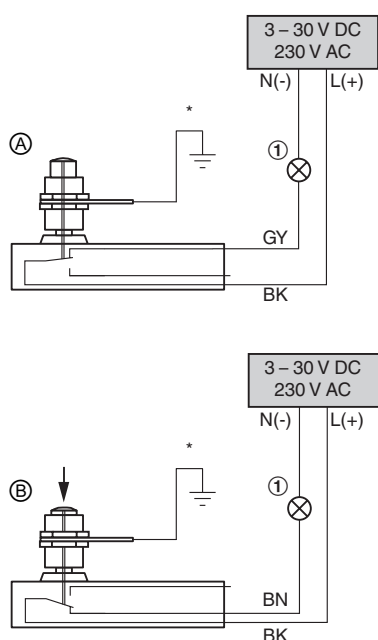

Fig. 12: Wiring example for limit switch
- ① Indicator light or relay, to be provided by others at 230 V
- The limit switches must be connected according to the wiring example Fig. 12